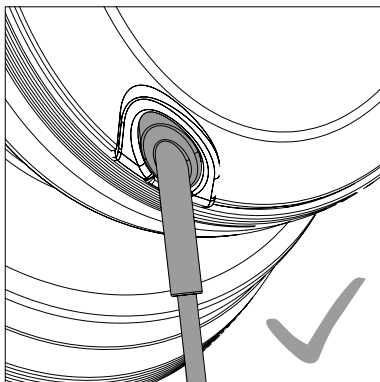

Fig. 3
- The plug is correctly connected when the plug housing is flush with the earcup as shown in fig. 3.